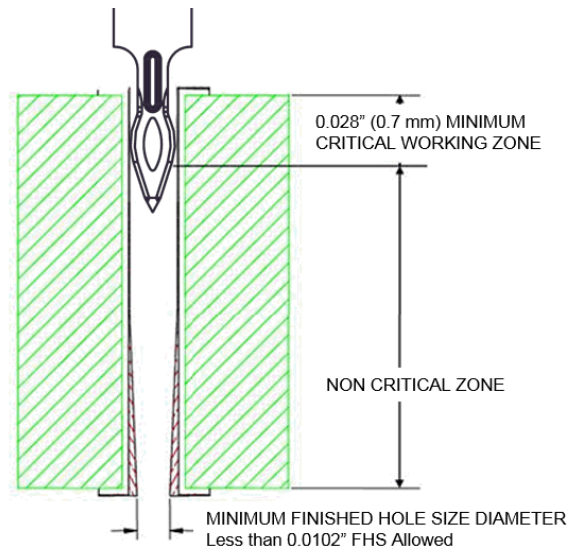

Figure 2: 0.0137" or 0.0145" Compliant Pin Critical Working Zone
- The finished hole inner diameter of the press-fit ground holes need be controlled only for the top 0.70mm (0.028") from the layer 1 side (Paladin HD Connector mounting side) of the PCB. See **Error! Reference source not found.** and Figure 2.
1. Copper thickness per side is an Amphenol requirement. The copper plating must be within specified range in **Error! Reference source not found.** according to the specific Finish Type selected by the end user. Copper plating at the knee of the hole is limited to a maximum of 10% above the average copper wall thickness measured in the working zone, see Figure 2 below, of the plated thru hole, and cannot exceed the MAX copper plating thickness specified in **Error! Reference source not found.**
The “Critical Working Zone” shown in Figure 2 is defined as the compliant working zone where the plated through hole requirements must meet the specifications defined within this document. In the “Non Critical Zone”, the plated through hole is allowed to go below the minimum required finish hole size for non-midplane applications. Back drilling is allowed in the “non-critical zone” only.